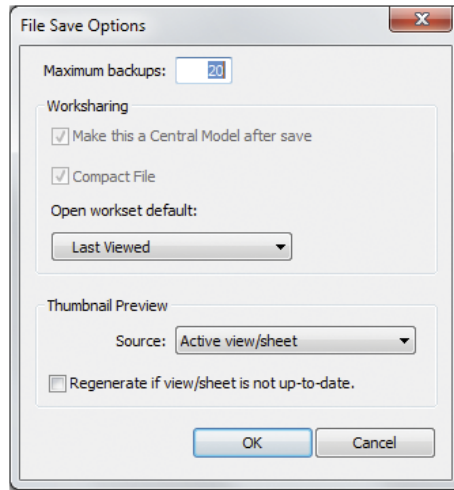

FIGURE 10.4 File Save Options dialog
4. Next, you want to save the project as the Central Model. Navigate to Application > Save As > Project. Before clicking Save, click the Options button. In the File Save Options dialog you can confirm that this will be the Central Model. You will have other options, such as the maximum number of backups that Revit Architecture will maintain for the Central Model (Figure 10.4). Confirm that Make this a Central Model after save is checked, and click OK to close the File Save Options dialog.